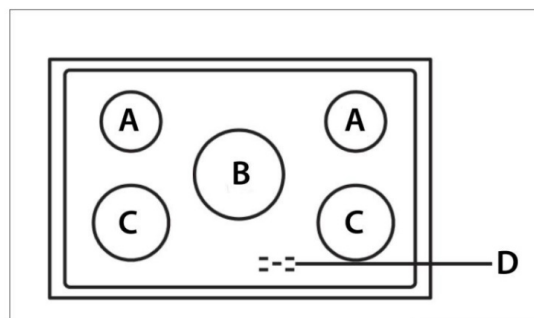

Figure 9
- The pot sizes listed in the table below are recommended for your ceramic surface. Solid pots and pans with flat bottoms provide the most efficient cooking performance. (See Figure 9.)